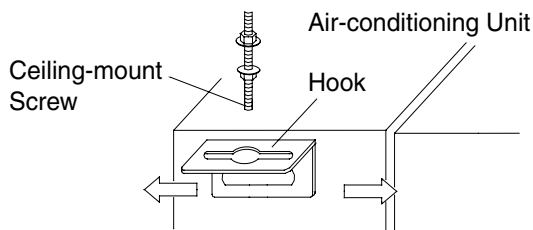

Fig.8.6
- (2) Install the hook onto the indoor unit as Fig.8.6 shows.